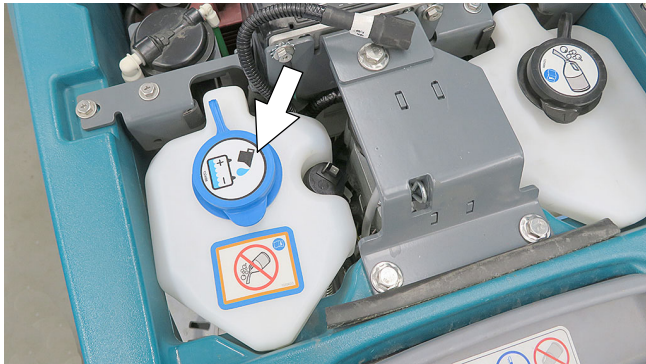

FIG. 23
- Lift the recovery tank to access the automatic battery watering tank (Figure 23). Drain recovery tank before lifting tank.